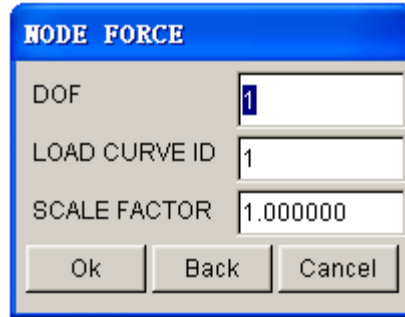

Figure 5.6.3 Define Node Force
- Key in DOF, LOAD CURVE ID and SCALE FACTOR in the NODE FORCE dialog box as illustrated in Figure 5.6.3.
- Select OK as illustrated in Figure 5.6.3 to select nodes. Refer to Figure 5.4.2 for information about selecting nodes.
- Select CANCEL in Figure 5.6.3 to exit.